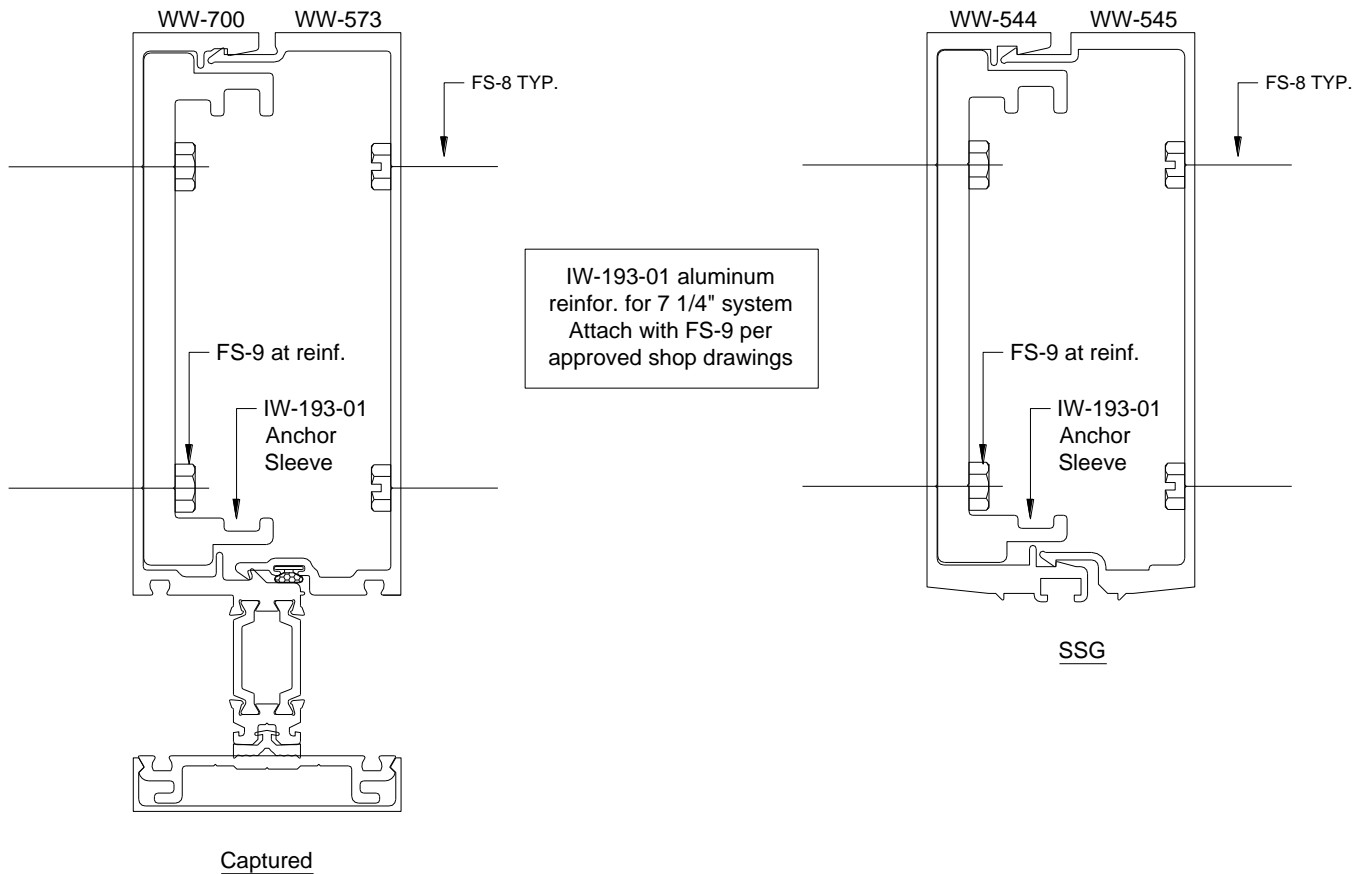

Figure 35: Typical Aluminum Reinforcement Attachment
2. In all cases where either the continuous IW-183-01 or IW-193-01 is used, FS-9 frame assembly fasteners will be applied through the reinforcement sleeve anchor. **See FIGURE 35.**